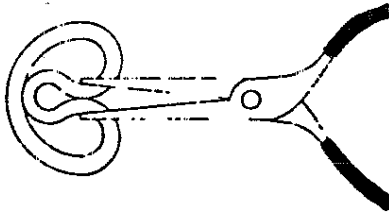

Figure F-5. Dynamic Rod Seal Installation
6. Position the head with the rod wiper pocket "up". Grasp the dynamic rod seal with the needle-nose pliers (Figure F-5).